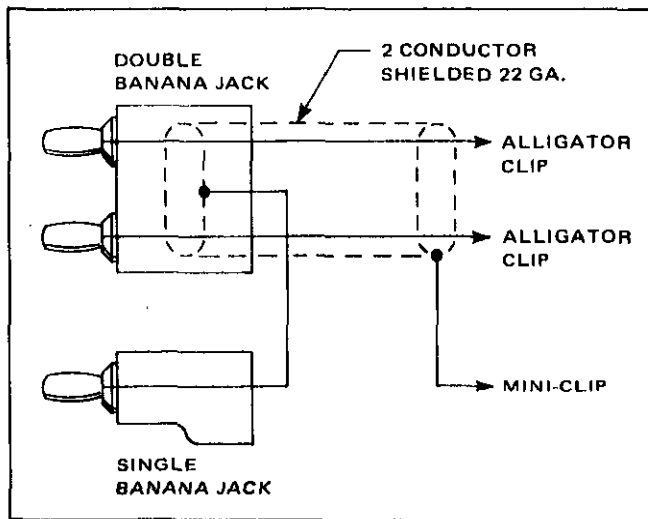

Figure 2.2 - Cabling Diagram, Binding Posts
2.15 Input cables to fit this type of connector can be ordered from Keithley (P/N 5900-402190). Figure 2.2 is a wiring diagram of this cable included for assistance to users desiring to construct their own cables.